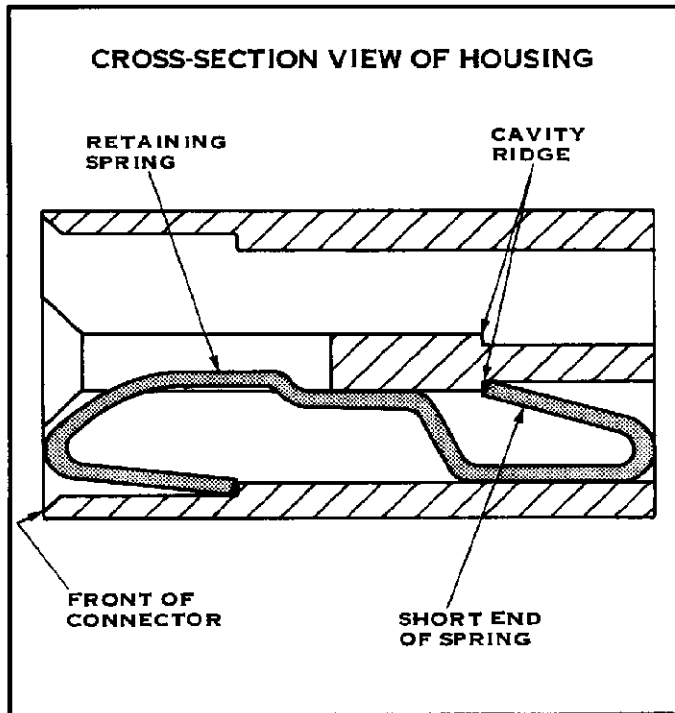

FIGURE 3
2. Push the spring straight in until the short end snaps in place behind the cavity ridge (see Figure 3).